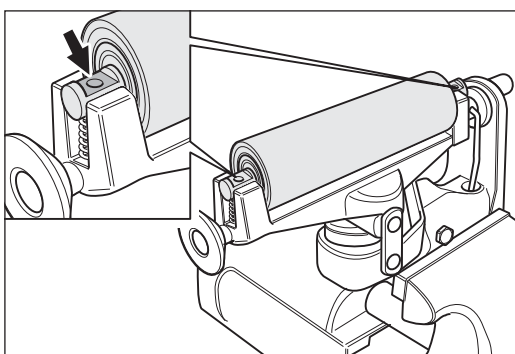

Fig. 91 Insert the new tensioning roller, ensuring that the surfaces on the shaft ends are pointing upwards!
- 6 Insert the compression spring and the tensioning roller. Ensure that the surfaces on the shaft ends of the tensioning roller are pointing upwards (fig. 91)!